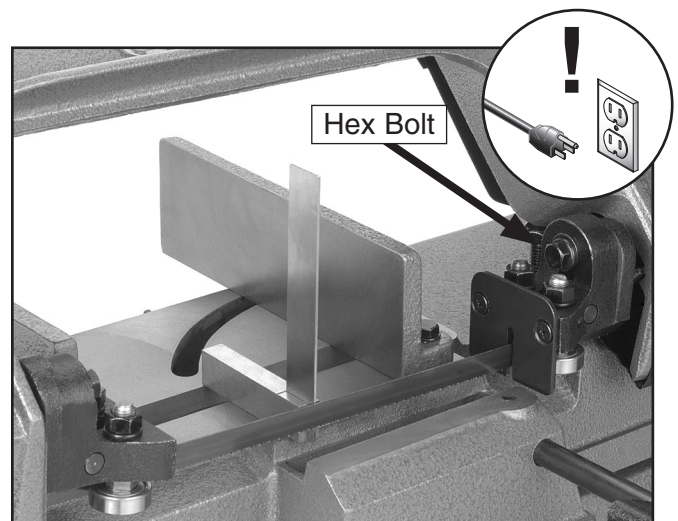

Figure 52. Squaring the blade.
3. Place a square on the table bed and against the edge of the blade (**Figure 52**), and check different points along the length of the table between the blade guides.
4. Loosen the hex bolt shown in **Figure 52**, and rotate the seat until the blade is vertical to the bed, then tighten the hex bolt.